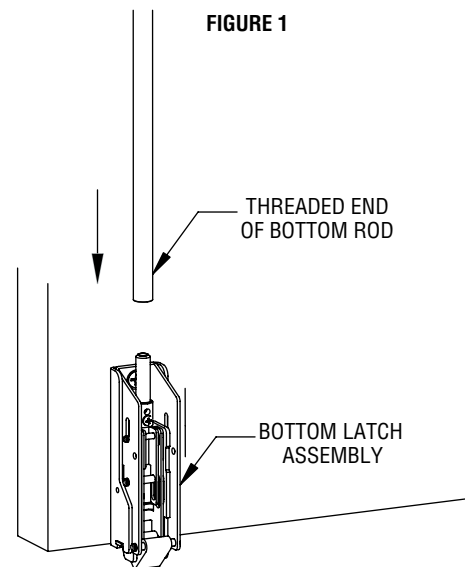

FIGURE 2
- B. Screw threaded end of bottom rod halfway onto bottom latch assembly (See Figure 2).
- C. Be sure top latch is in the locked position (not retracted). Thread top rod half-way onto top latch threaded connector. Fasten bottom end of top rod onto actuating block on exit device chassis. This may require raising or lowering the top rod by threading it clockwise or counterclockwise on the top latch threaded connector (see Figure 2).